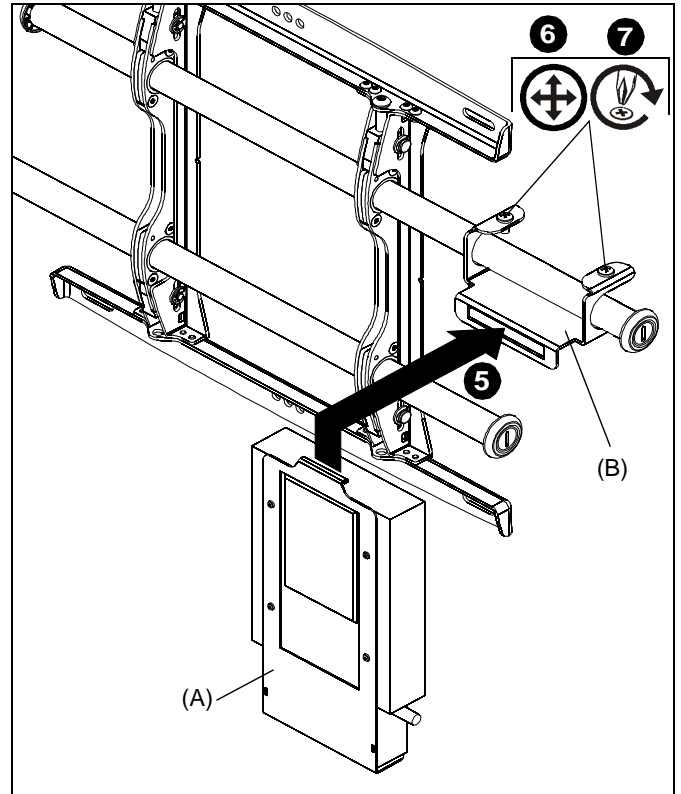

Figure 5
5. Hang removable bracket (A) with attached CPU on the top bracket (B). (See Figure 5)